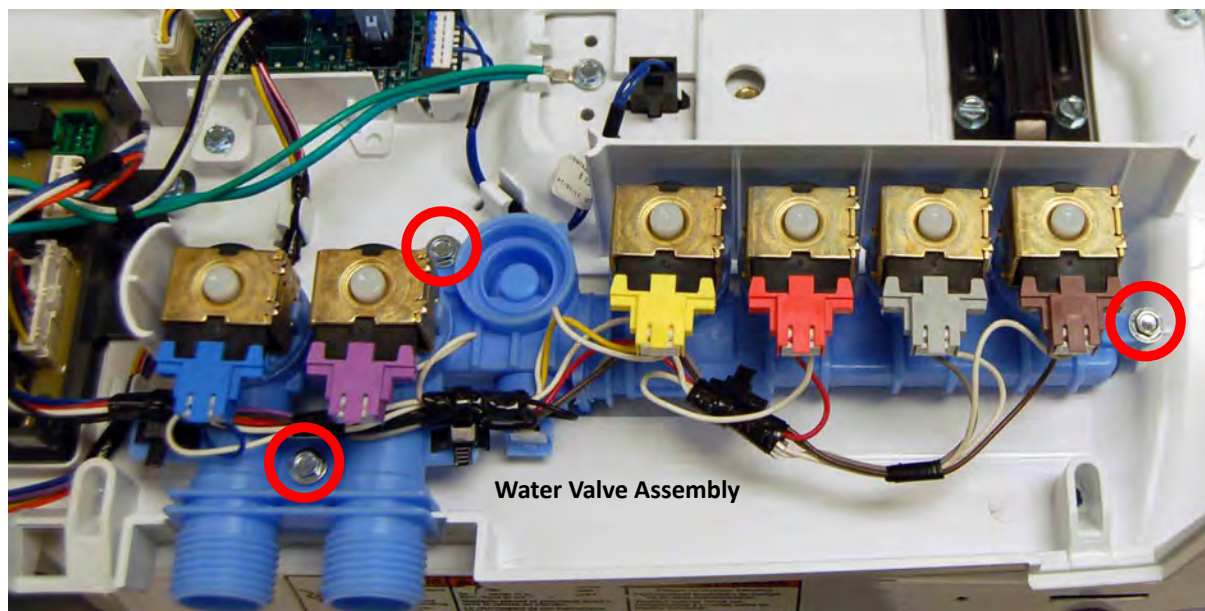

Figure 3
8. Using a 1/4" nut driver, remove the three (3) hex-head screws securing the water valve assembly to the top panel of the washer (locations circled in Figure 3 below). Remove water valve assembly.